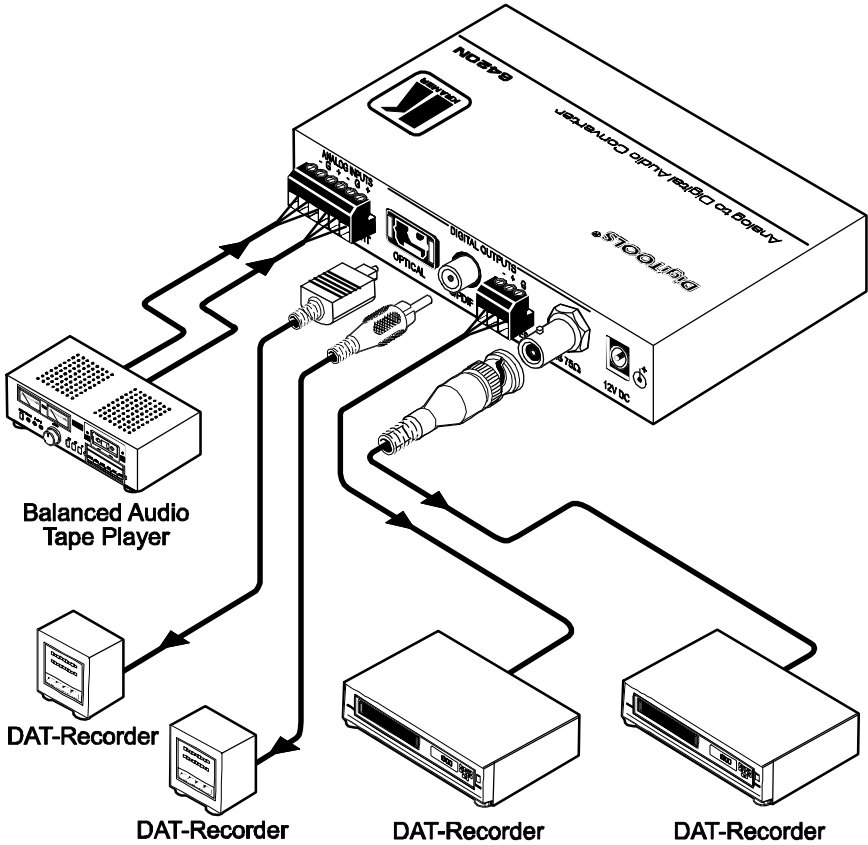

Figure 7: Connecting the 6420N Analog to Digital Audio Converter
To connect your **6420N Analog to Digital Audio Converter**, as illustrated in the example in Figure 7, do the following1:
3. Connect the 12V DC power adapter to the power socket and connect the adapter to the mains electricity (not shown in Figure 7).